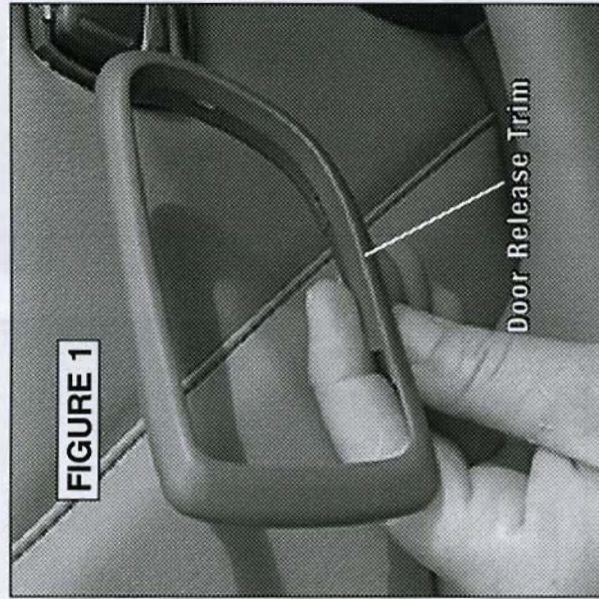

FIGURE 1
1. Pry out edges of **door release trim** to release plastic retaining clips and remove trim (Figure 1).